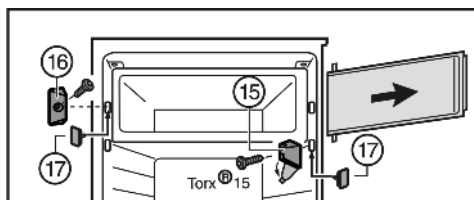

Fig. 7
- ▶ Fold away the cover of the turn hinge Fig. 7 (15).
- ▶ Unscrew turn hinge Fig. 7 (15) together with compartment door.
- ▶ Unscrew closing element Fig. 7 (16).
- ▶ Close the vacated holes with the accompanying stoppers Fig. 7 (17).